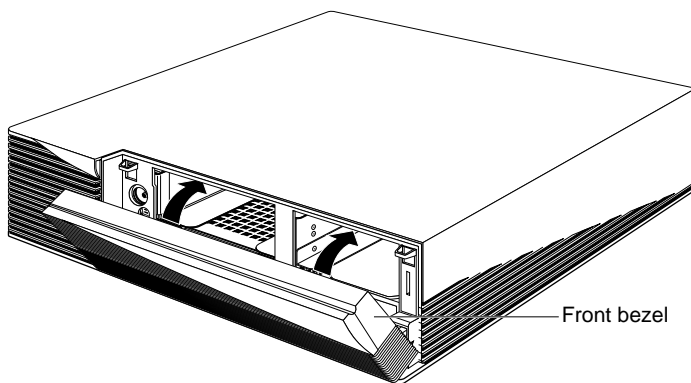

Figure 4-14 Replacing the Front Bezel on the Indigo² Chassis
- Place the tabs on the bottom of the bezel in the grooves in the front of the chassis, as shown in Figure 4-14.